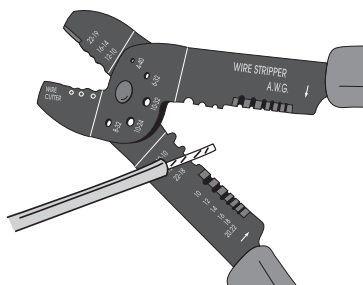

figure 5
1. Strip wires over 1 cm (1/2 inch) (**figure 5**).